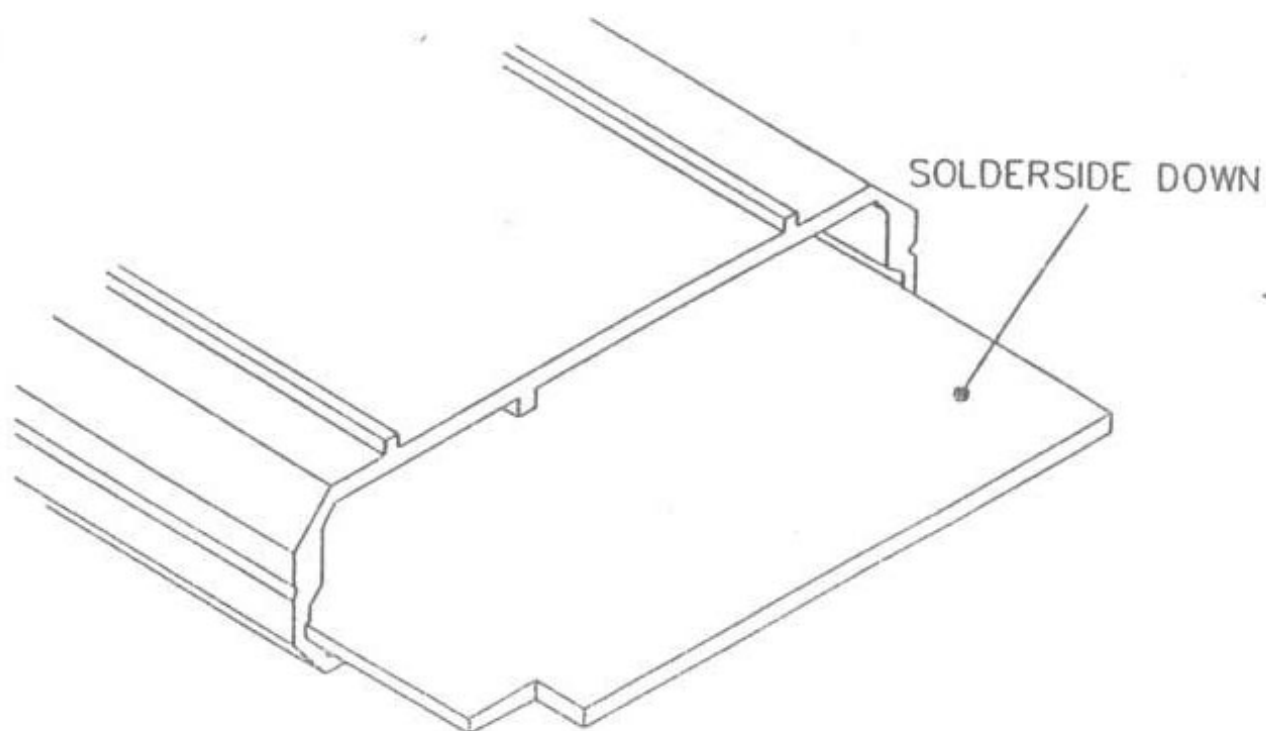

FIG:2.1
- Slide the print in the house from left to right (see Fig. 2.1).